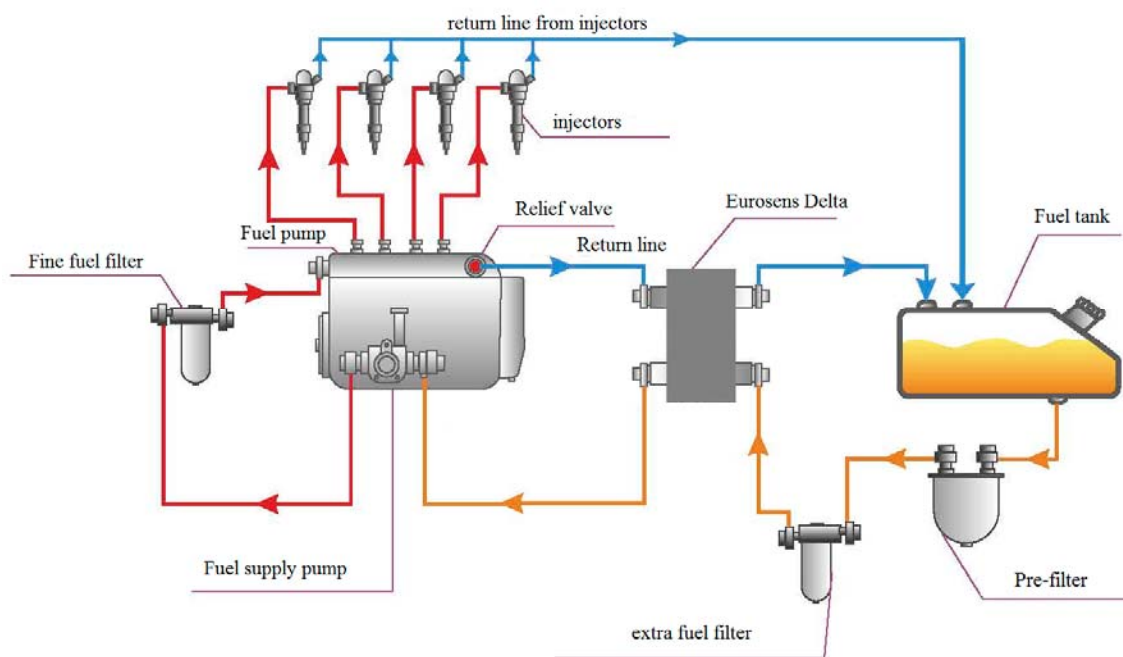

Fig.9. Eurosens Delta installation with supply chamber "on suction side"
- 2) Supply chamber is installed in the fuel line before supply pump (on suction side). In this case, the installation of an additional fine filter is necessary (see. Fig.9).